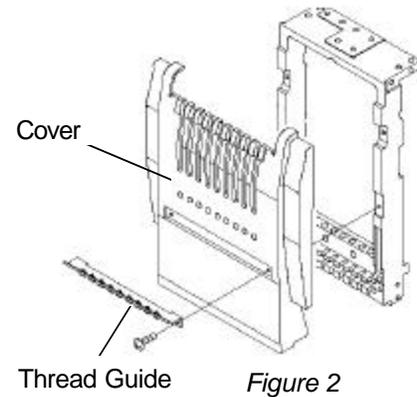

Figure 2
- Using a Philips head screwdriver, remove thread guide and cover from front of sewing head. See figure 2